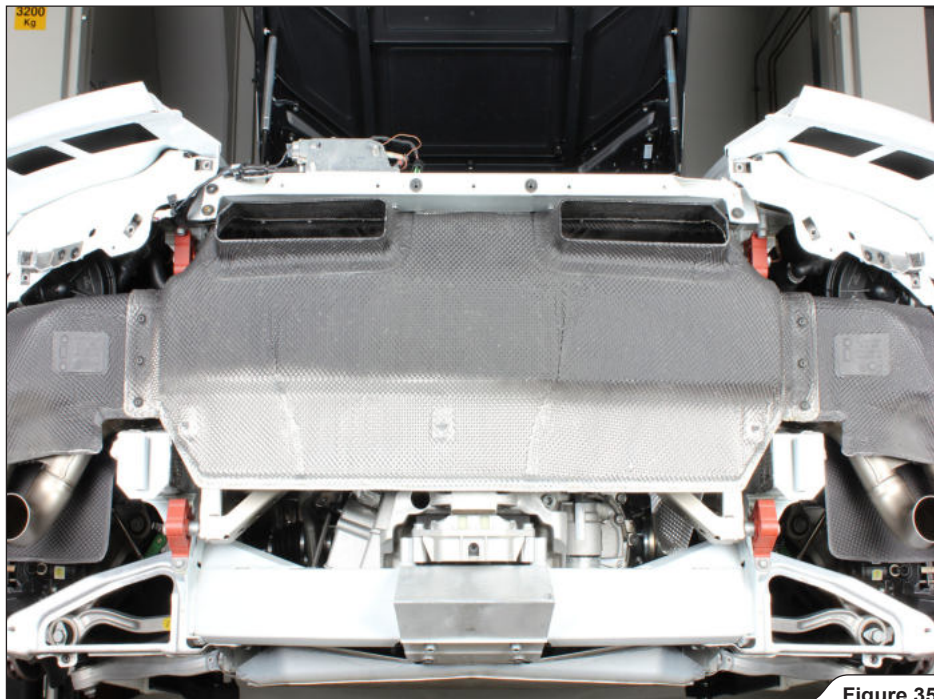

Figure 35
- Carefully attach the assembled muffler onto the chassis, using stock bolts, washers and distance bushes; tighten the bolts on both sides to a specified torque (**Figure 35, 36**).